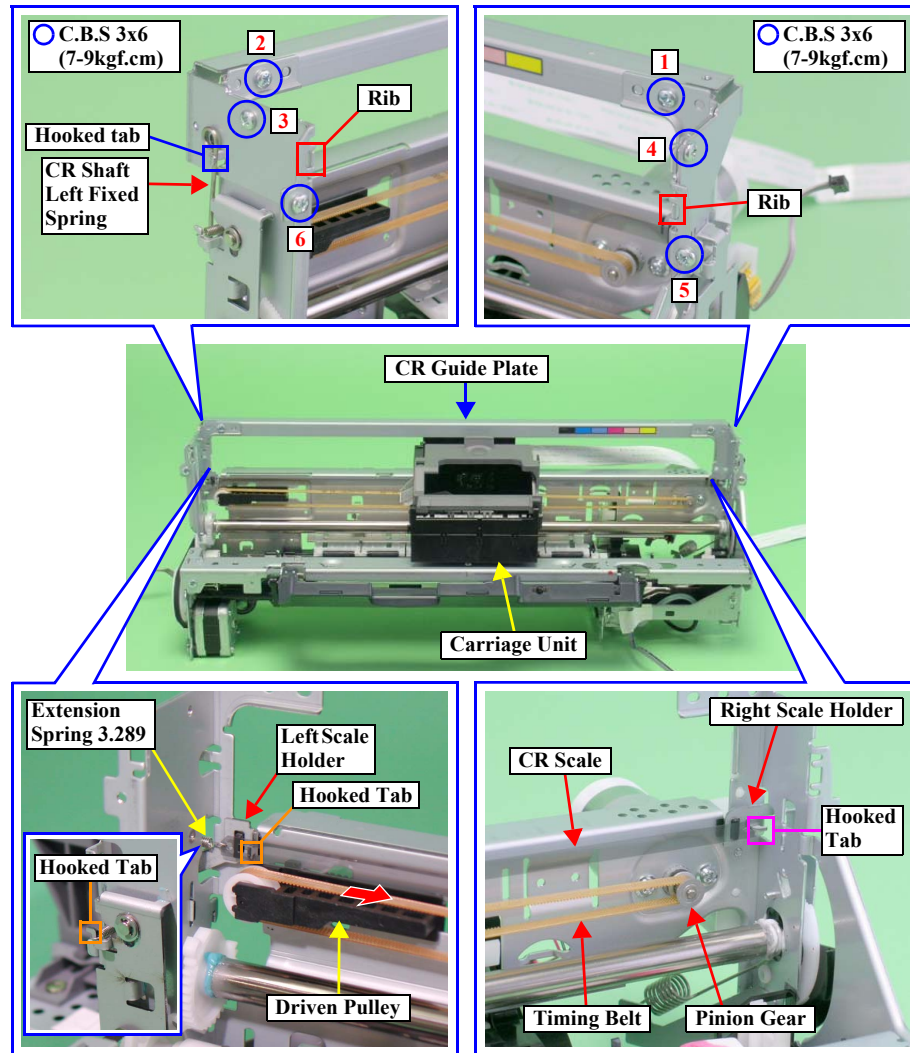

Figure 2-68. Removing the Carriage Unit (1)
- Tighten the screws in the order shown in Figure 2-68.